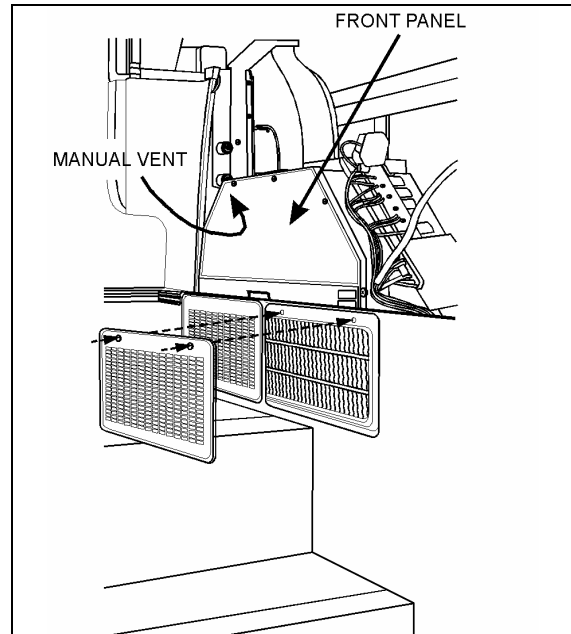

FIGURE 40: DRIVER'S HVAC UNIT
4. From inside of vehicle, remove the two finishing panels in front of unit. Remove the three screws fixing the unit front panel. Open the manual vent located inside the HVAC unit, on the driver's side (Fig. 40) to ensure an efficient draining.
Whenever the heating system has been drained and refilled, or the system has run low on coolant and coolant has been added, it is necessary to bleed air from heating system. Locate the manual vents illustrated in Figures 40 and 44, and open them momentarily until no air escapes from the lines.